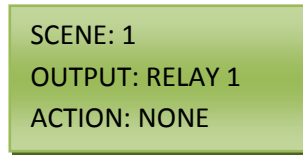

Figure 7.2
5. If an Action is desired, press the Down Arrow so the cursor is on the colon between the words ACTION and NONE. Press either the Left or Right Arrow to select the Action for the relay. Each Load and Action will have to be programmed one at a time. See figure 7.2 for visual description.